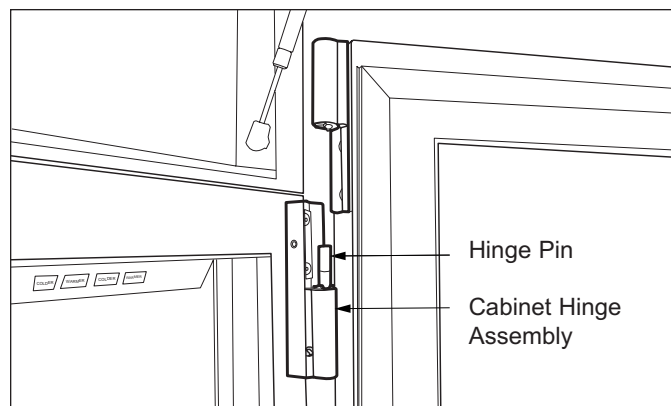

Figure 2-13. Door Removal
2. Open door to about 45 degrees and lift door off the cabinet hinge assembly (See Figure 2-13).